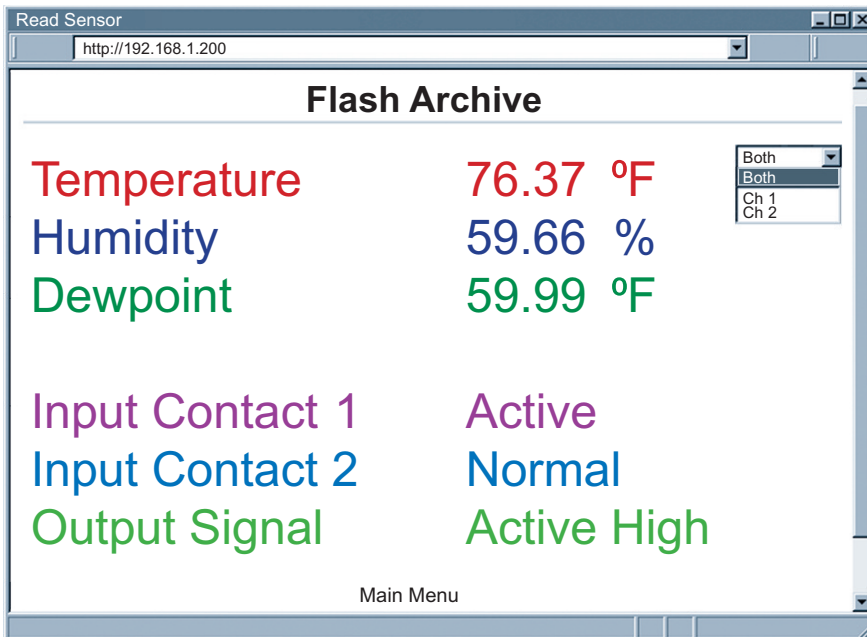

Figure 4.7 Read Sensor
- Click on **Read Sensor**. In a few seconds the following page (**Figure 4.7**) will appear with all default values of 100.00. Then the actual readings of Temperature, Humidity and Dewpoint will display.